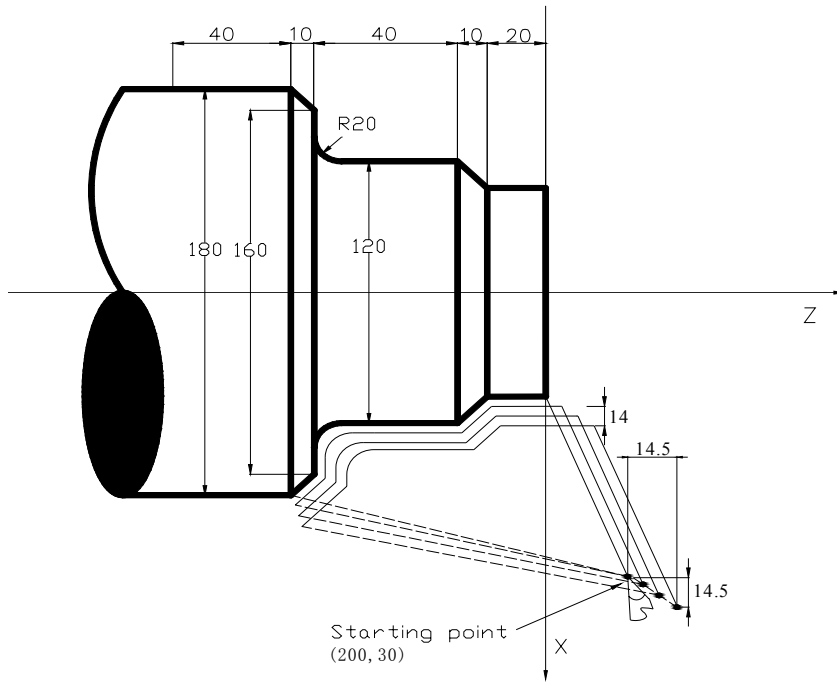

Fig. 4-44
- I — Retraction value on X axis during the first roughing (with sign). Refer to the distance I in Fig. 4-44.
- K — Retraction value on Z axis during the first roughing (with sign). Refer to the distance K in Fig. 4-44.
【Execution process】 as Fig.4-44. Suppose $L=2$ layers.
Cutting figure is shown as the shape in fig. 4-44: